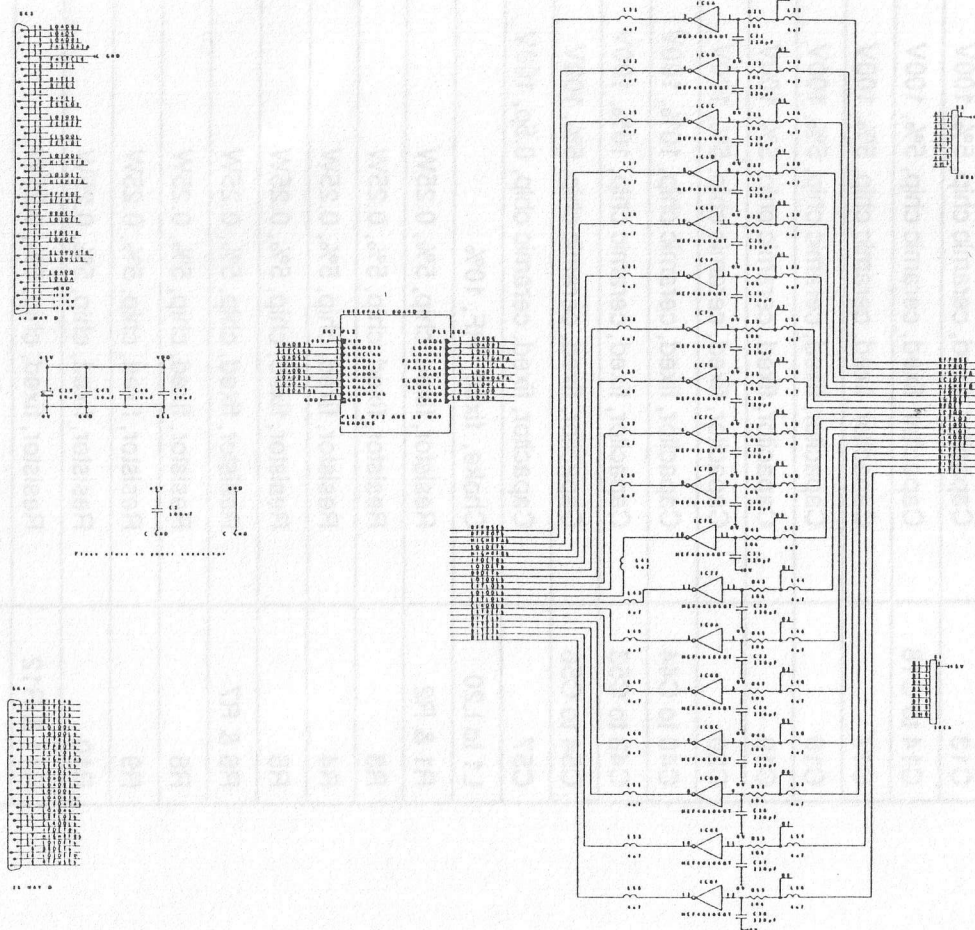

Figure 3 - Interface Module Circuit Diagram, Sheet 1 of 2
- Figure 3 Controller Board Assembly - Circuit Diagram